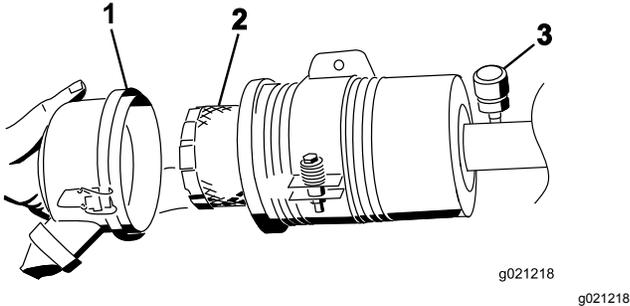

Figure 81
5. Remove and replace the filter (Figure 81).